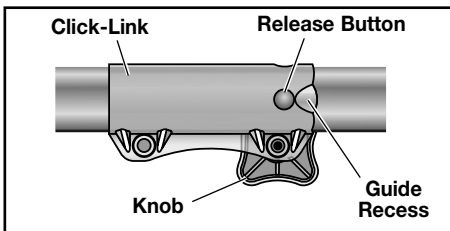

Fig. 12
1. Loosen the knob **counterclockwise** (Fig. 12).
2. Push the release button **in** (Fig. 12).